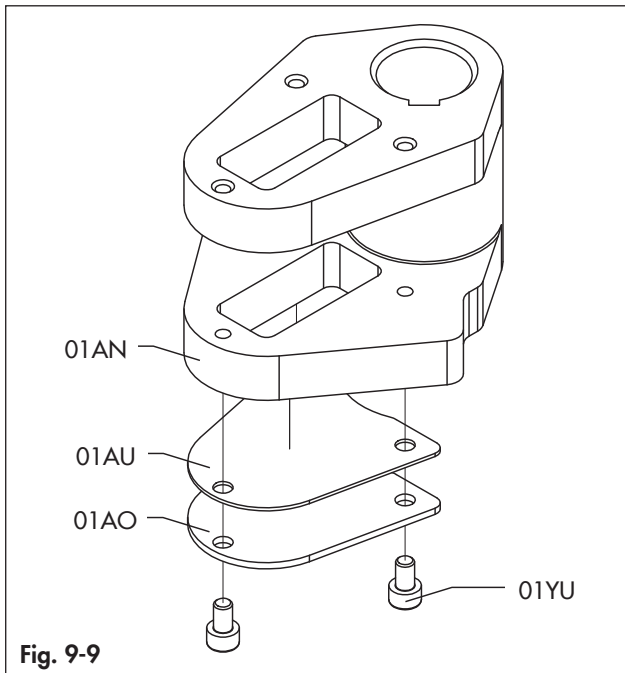

Fig. 9-9
- Unscrew the screws (01YU) and remove the lower yoke cover (01AO) and the gasket (01AU). (Fig. 9-9).